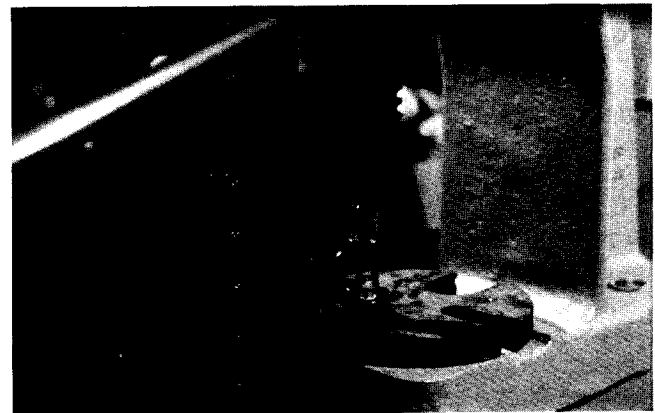

Figure 33
4. Use an arbor press to remove bedbar pivot bushings (Fig. 33). DO NOT hammer on pivot boss of bedbar without support. You will break the casting.
5. Press center pivot bushings into place (Fig. 33). DO NOT hammer on pivot boss of bedbar without support. You will break the casting.